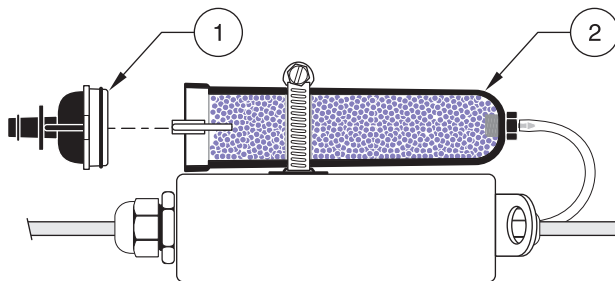

Figure 41 Removing the Bottom End Cap
1. Twist the bottom end-cap using a slight twisting motion until its slots align with the retaining clips (Figure 41).